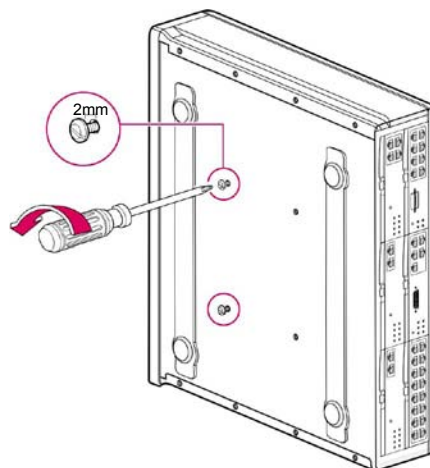

Figure 2.10 Wall Installation (4)
- 5) There are two screws in two of the four holes at the bottom of the OfficeServ 7200 cabinet as shown below. To install on the wall, loosen the two screws to approximately 2mm as shown in Figure 2.10.